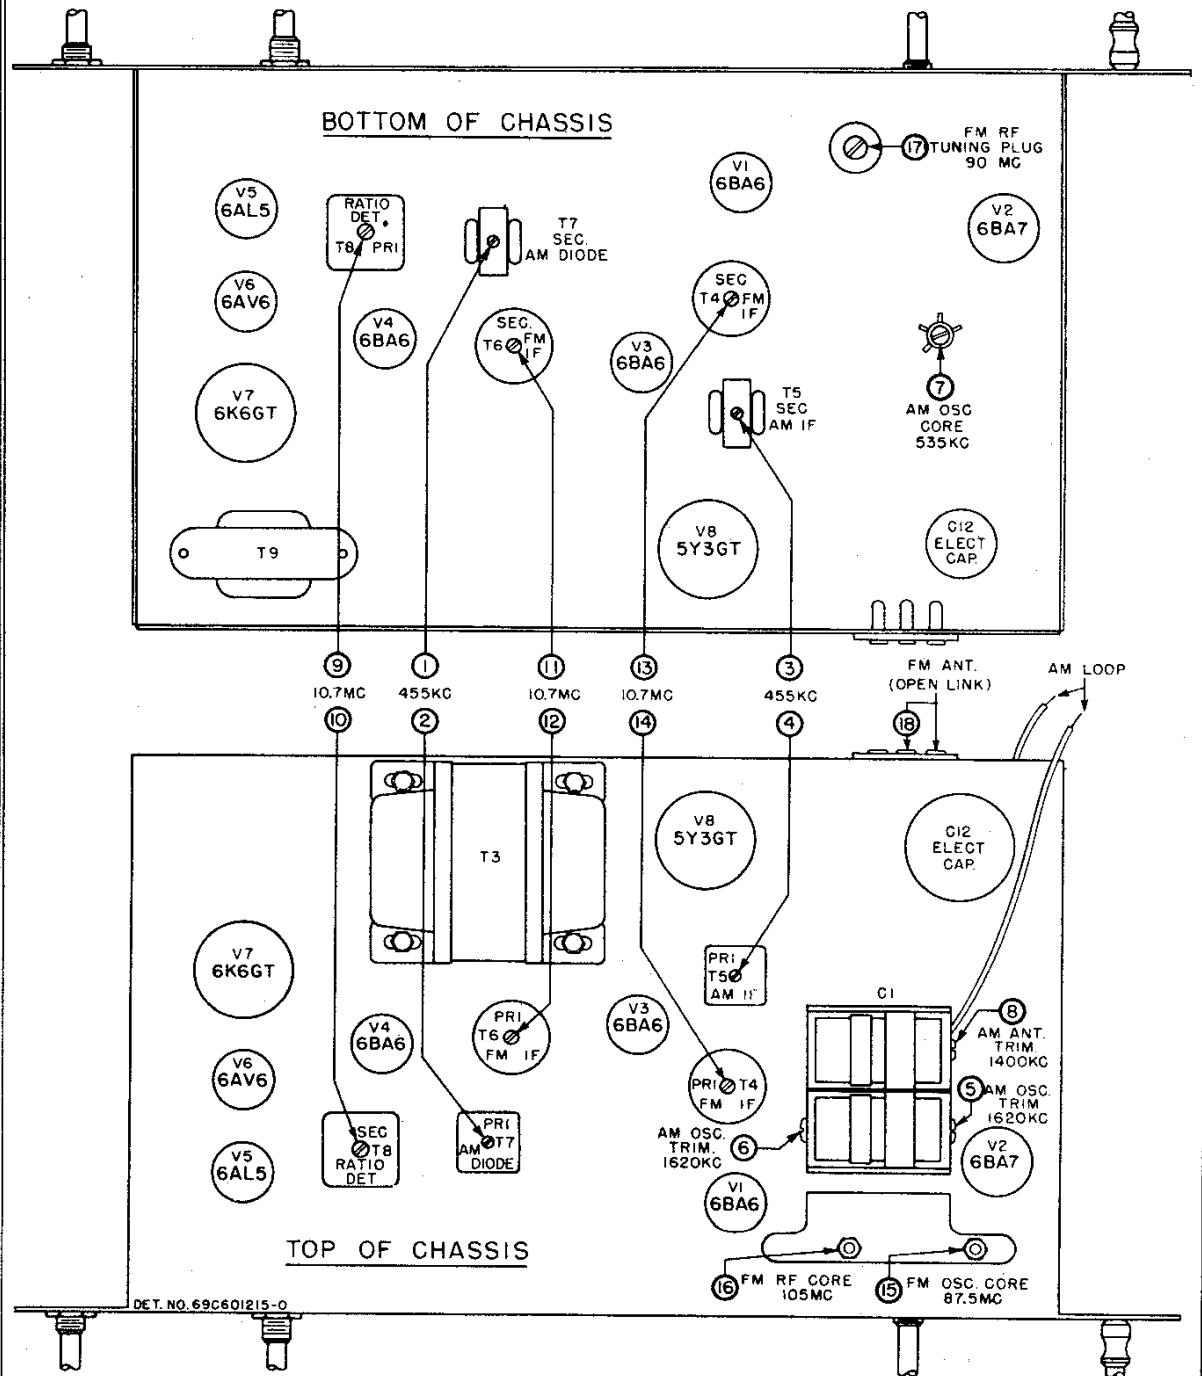

FIGURE 4. TUBE AND TRIMMER LOCATIONS.
3. Refer to Figure 4 for the location of all alignment trimmers and cores.